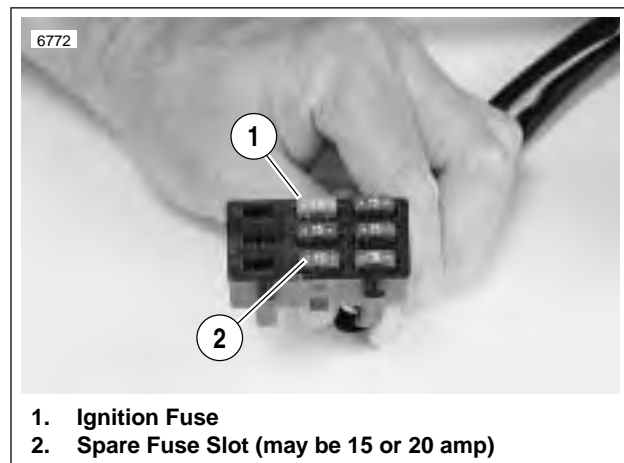

Figure 4-57. Ignition Fuse
- BN/Y wire is shorted to 12 volts. This will also cause the ignition fuse to blow. See Figure 4-57.